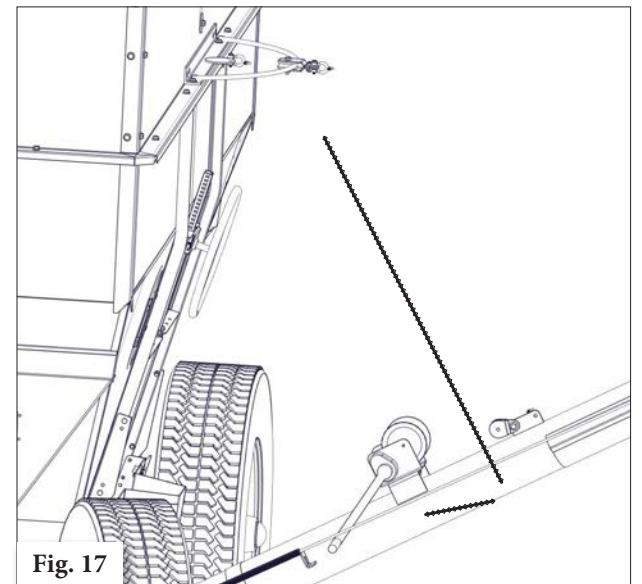

Fig. 17
- Route the cable through the pulley on the auger, then up towards the Curved Rod Weldment and then through the shackle. Secure cable to the shackle using a 3/16" cable clamp. Fig 17.